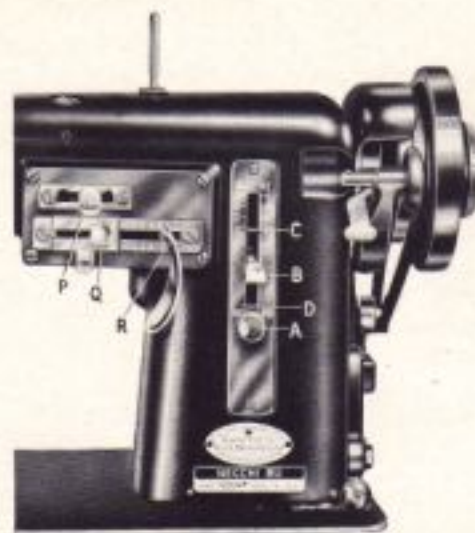

Fig. 20
(See Figure 20 for reference.)
a. Bring lever "B" (Fig. 20) down as far as possible.